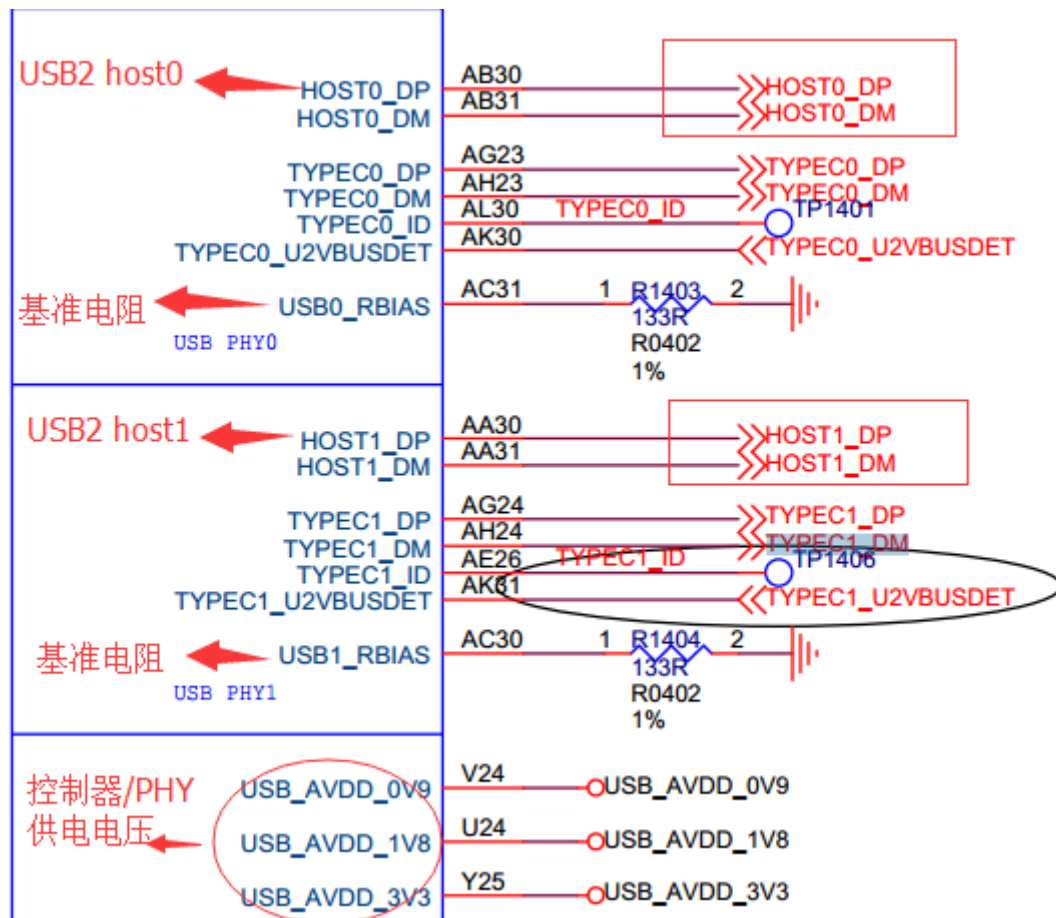

Figure 2-1 USB 2.0 HOST pin in SoC
- The SoC pins of the USB 2.0 Host controller are shown in Figure 2-1